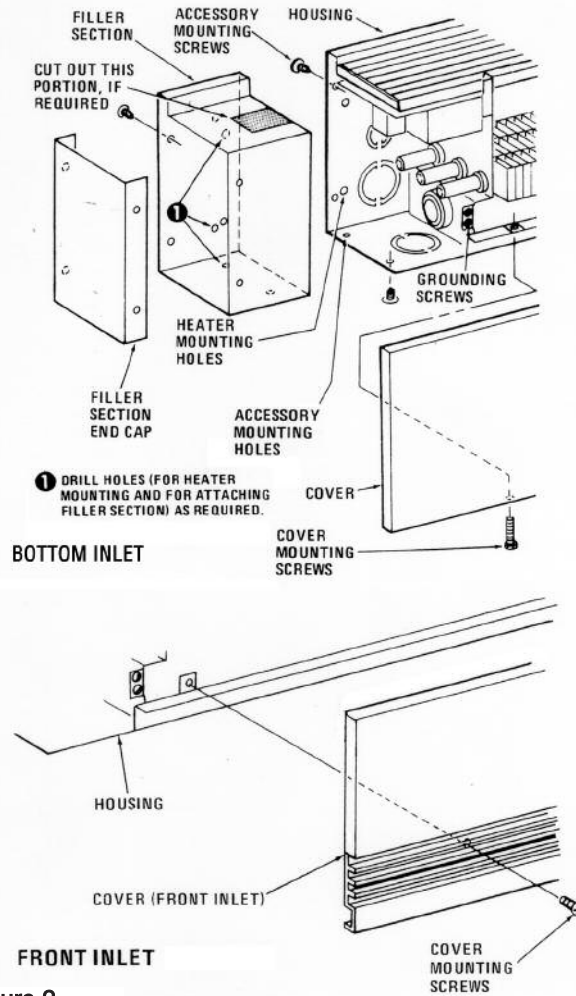

Figure 2
1. Remove front cover by removing mounting screws (Figure 2).
4. If filler section is desired to terminate the heater, install the filler section in the end of the heater and extend to desired length. Mark the mounting hole locations, remove the filler section and drill the required mounting holes. Install the filler section in the heater and the end cap on the filler section as shown in Figure 2.
Note: If a thermostat and/or disconnect switch are installed in the heater left junction box, it may be necessary to cut away a portion of the filler section to allow access to these controls (Figure 2).
9. Following the wiring diagram secured to the heater, make electrical connections. Ground the heater using the ground screws provided (Figure 2).
10. Replace front cover and secure with mounting screws. (See Figure 2).
1. Remove all the front covers from the heaters by removing mounting screws (Figure 2).